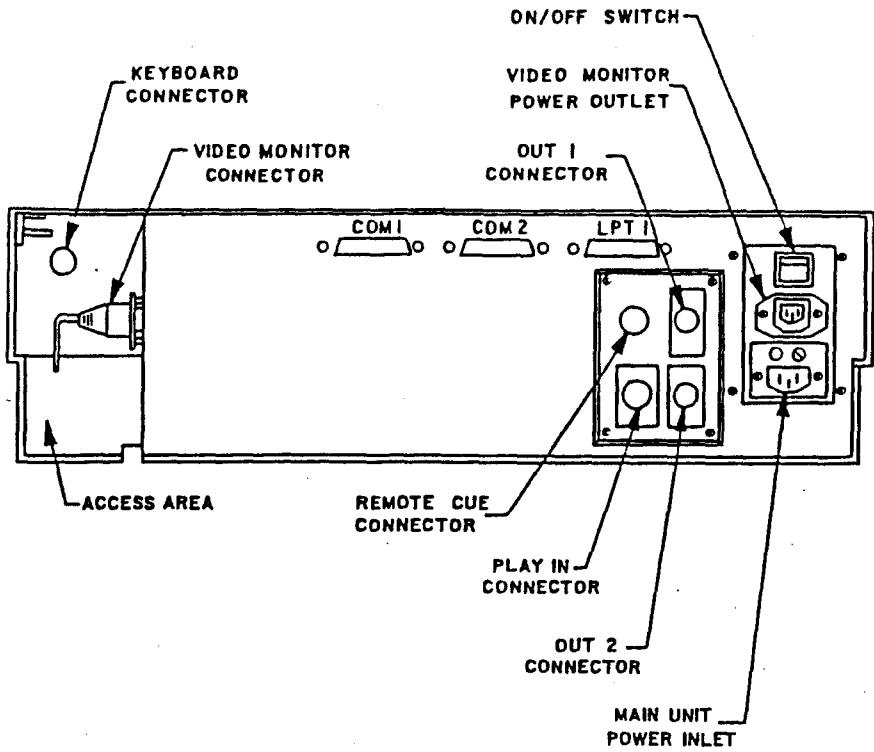

FIGURE 3-1 REAR PANEL CONNECTORS
- STEP 2 Connect the video monitor power cord into the power socket on the main unit rear panel. Refer to Figure 3-1.
- STEP 3 Connect the video monitor interface cable to the 9-pin video monitor connector in the side panel access area. Refer to Figure 3-1.
the OFF position. (The red circle on the switch should be showing). See Figure 3-1.